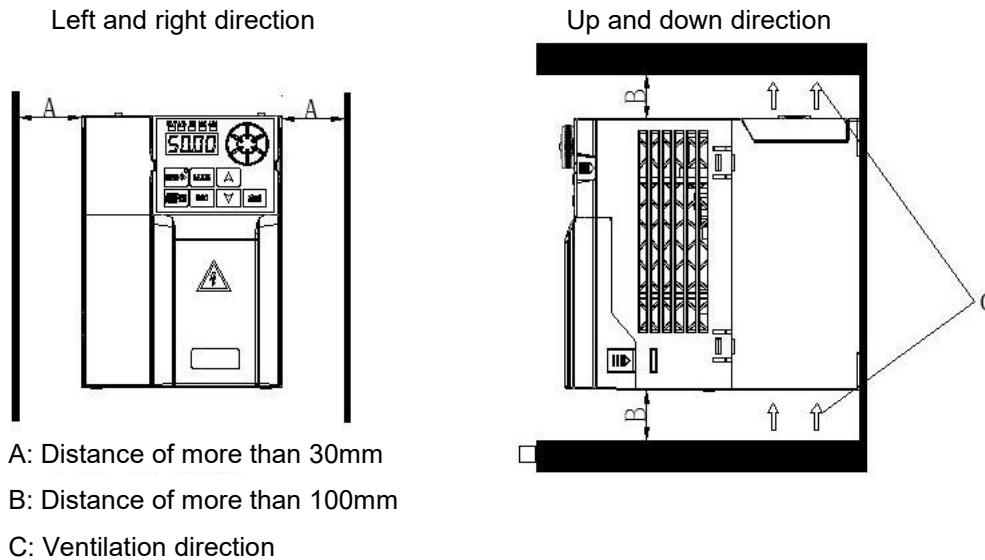

Figure 4.2 Single installation spacing requirements
(2) When installing a single unit, the installation spacing requirements are as shown in Figure 4.2;